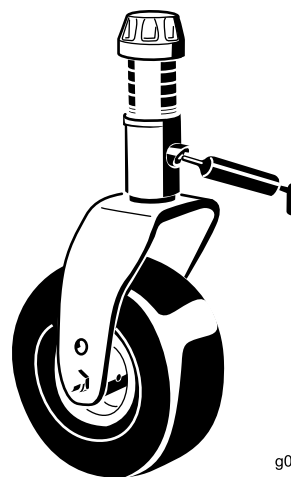

Figure 40
- Castor fork shaft bushings (2) (Figure 40)